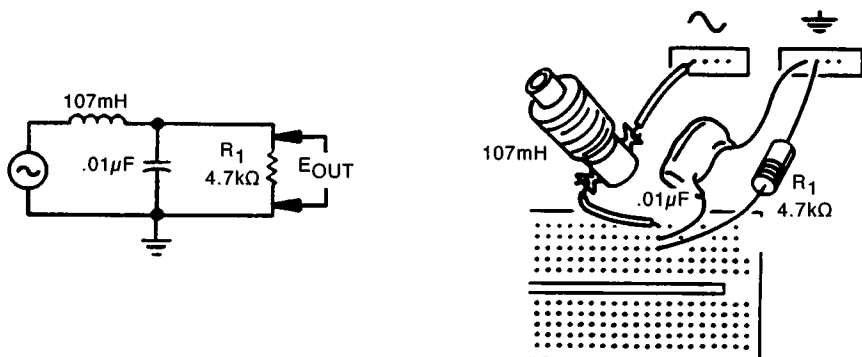

Figure 5-46
19. Disconnect the previous circuit and construct the circuit shown in Figure 5-46.
Plot the response curve for the circuit shown in Figure 5-46.
Next you built the circuit shown in Figure 5-46. A typical response curve is shown in Figure 5-53. Your curve should be similar. Because the high frequencies are blocked, this is a low-pass filter.
shown in Figure 5-46.